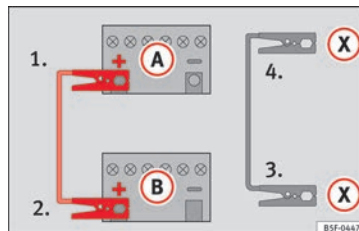

Fig. 68 Diagram of connections for vehicles with Start Stop system
– *For vehicles with Start-Stop system:* connect one end of the *black* jump lead (X) to a suitable ground terminal, to a solid piece of metal in the engine block, or to the engine block itself »» **Fig. 68**.
5. Connect the other end of the *black* jump lead (X) to a solid metal component bolted to the engine block or to the engine block itself of the vehicle with the flat battery. Do not connect it to a point near the battery (A).